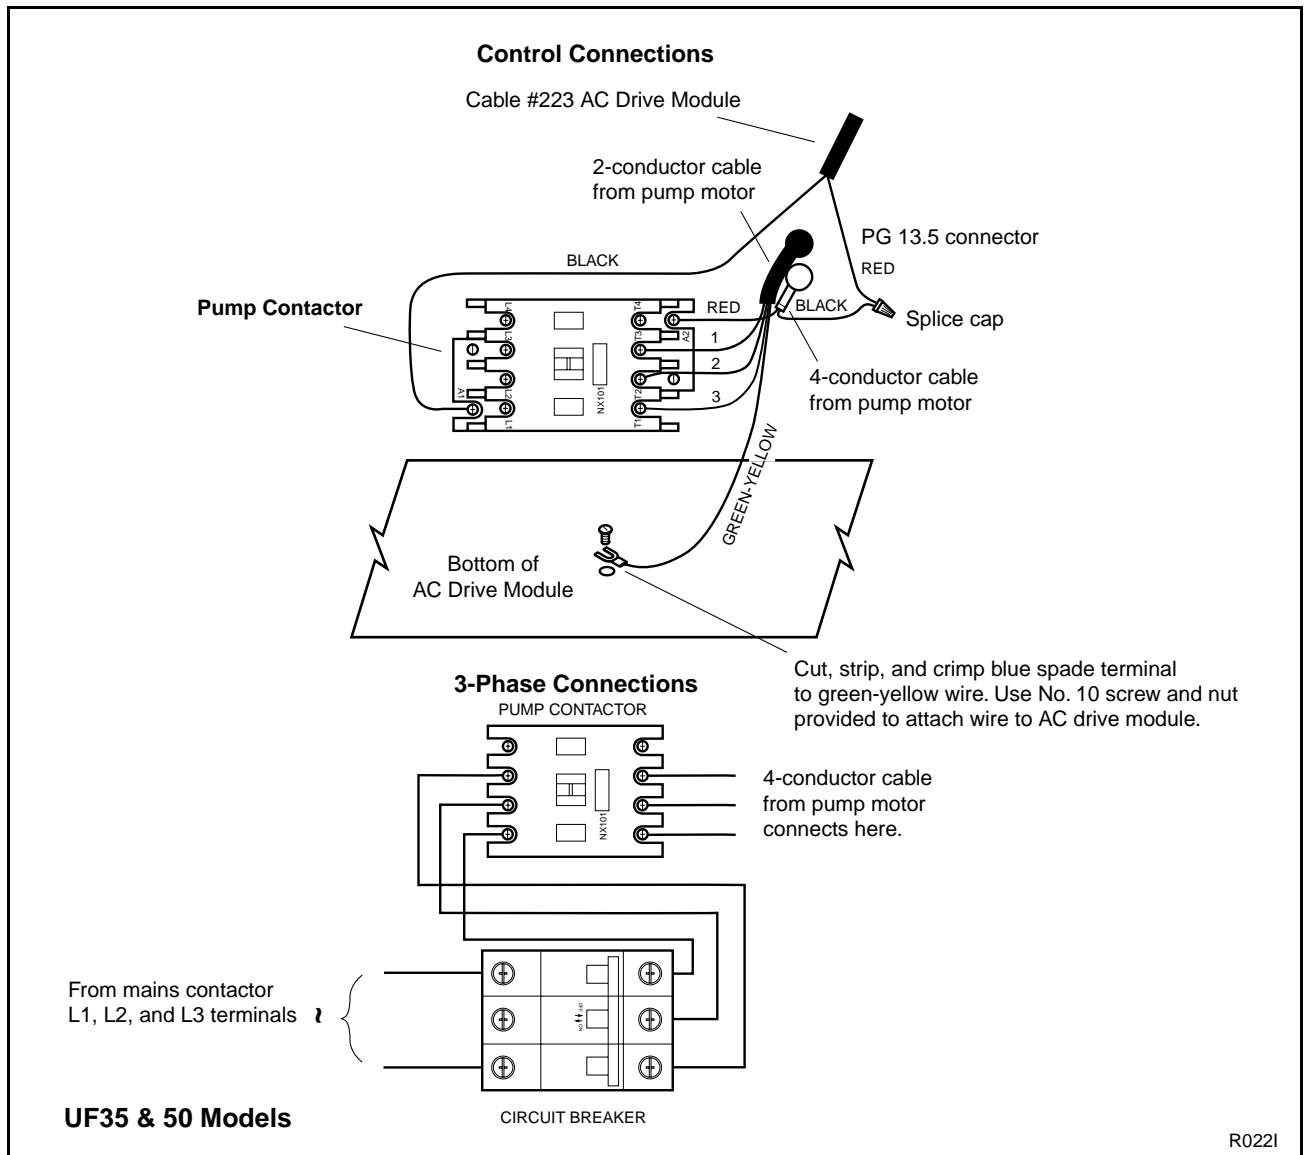
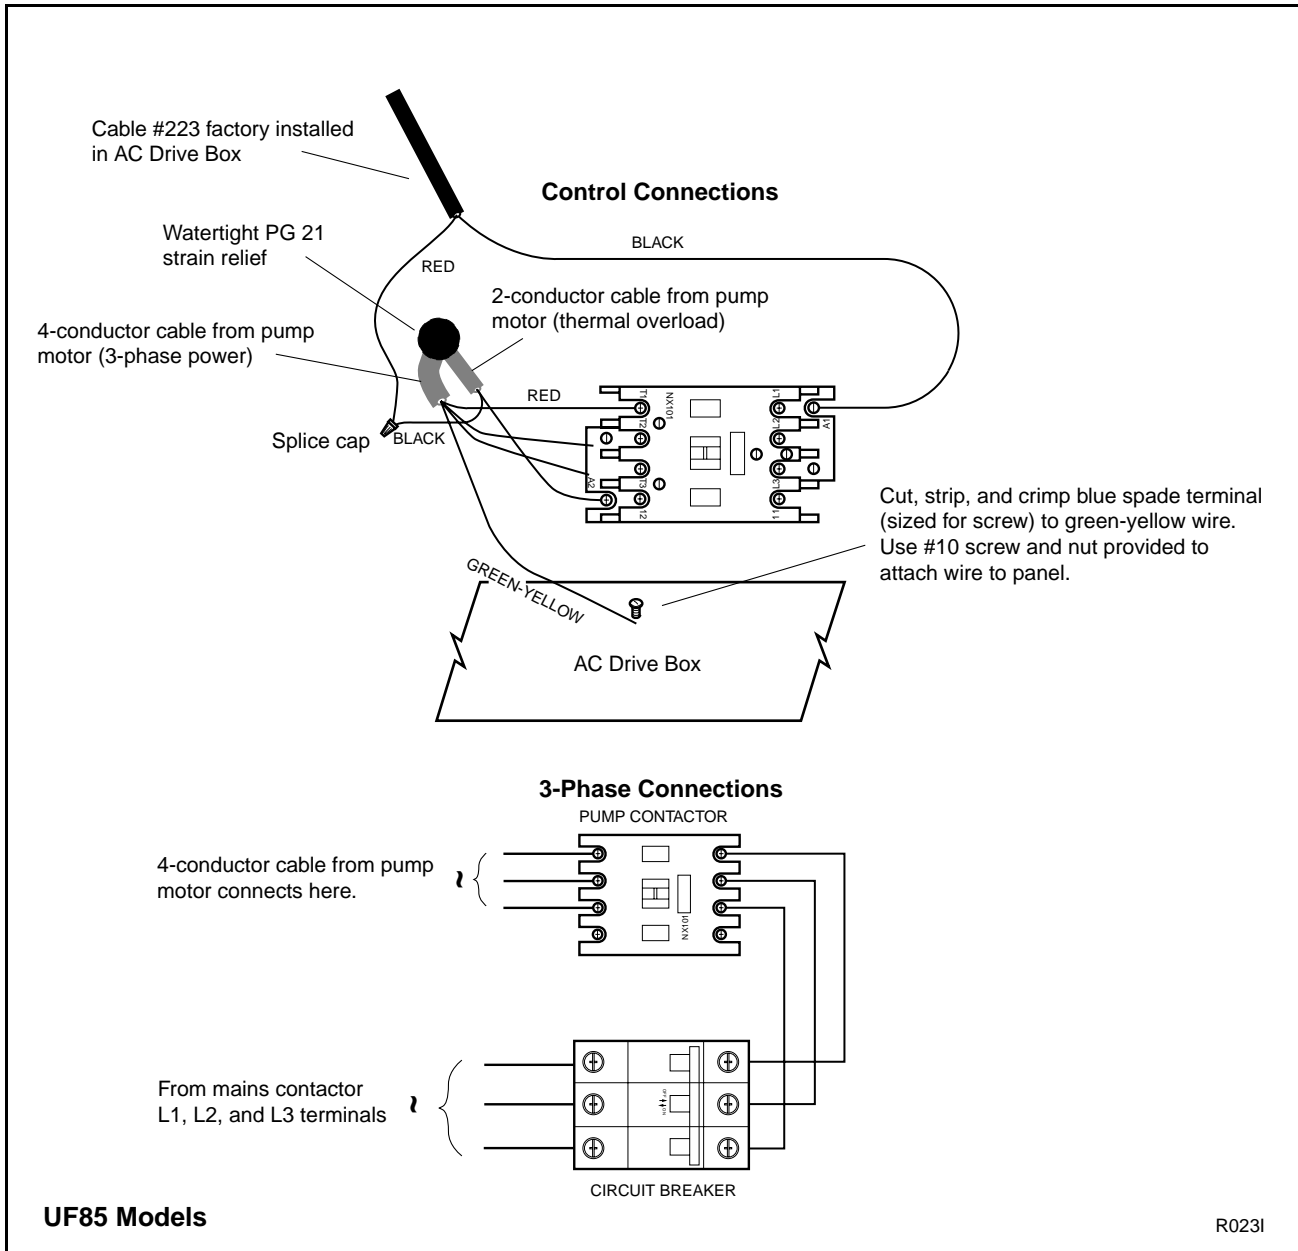

Figure 23
Figure 24
- b. *On the 35- and 50-pound models,* install two PG 13.5 watertight strain reliefs, included in the kit, in place of each of the top two plugs. See Figure 23. *On the 85-pound models,* install the PG 21 strain relief in place of the second plug from the top. See Figure 24.
- d. *On the 35- and 50-pound models*, route the 2-conductor and 4-conductor cable through the two PG 13.5 strain reliefs installed in step b. See Figure 23. *On the 85-pound model*, route both the 2-conductor cable and the 4-conductor cable through the PG 21 strain relief as shown in Figure 24.
- e. Connect red wire in the 2-conductor cable from the canister/filter/pump assembly to terminal A2 of the pump contactor. See Figure 23.